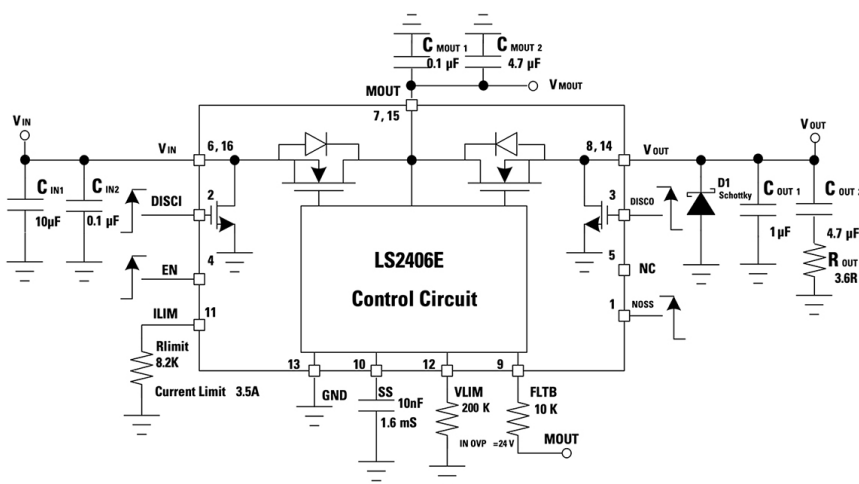

Figure 7: Typical application of the LS2406ERQ23 eFuse supporting reverse-current blocking and FRS for USB Type-C PD applications. (Image source: Littelfuse)
Designers of notebooks and tablet computers, docking stations, and network devices that need Thunderbolt or USB Type-C PD functionality with RCB and FRS, can turn to the LS2406ERQ23 28 volt, 6 A eFuse regulator that includes OCP, OVP, short-circuit, soft start and OTP (Figure 7). The power switch has an on resistance of 24 mΩ to minimize power dissipation during normal operation, the OCP, OVP and soft start functions are programmable, and the OTP includes automatic recovery when the device cools. This eFuse features an always-on RCB function regardless of the enable signal (EN) logic state. FRS and the integrated input and output discharge functions meet the USB PD specifications.